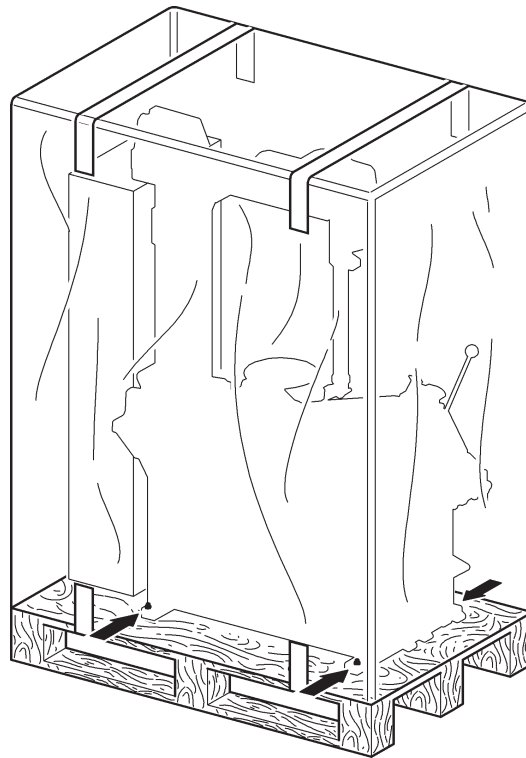

Fig. 15
- The equipment is usually shipped partially assembled as shown in Fig. 15.
- lift carefully, using adequate load support means, in perfect working order, using the appropriate signs placed on the packaging Fig. 15.